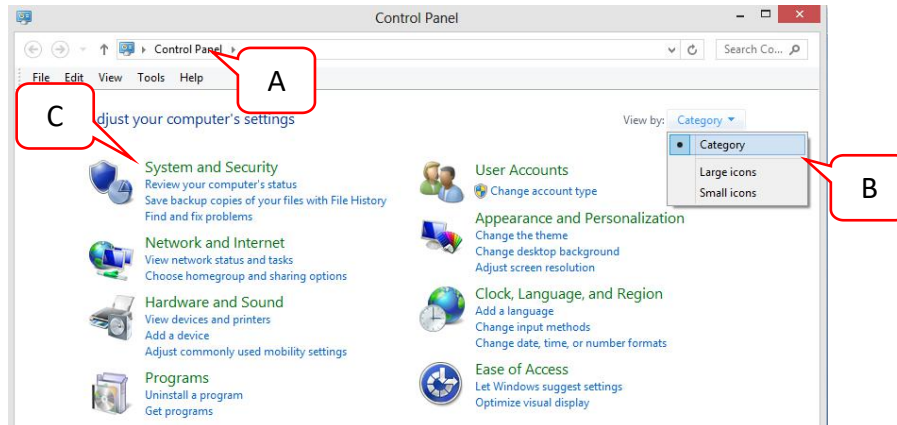

Figure 11 System and Security
6. Return to “System and Security” tab and select “Turn automatic updating on or off” at “Windows Update” tab. At the Important updates tab, select the “Never check for updates (not recommended)” as Figure 11.